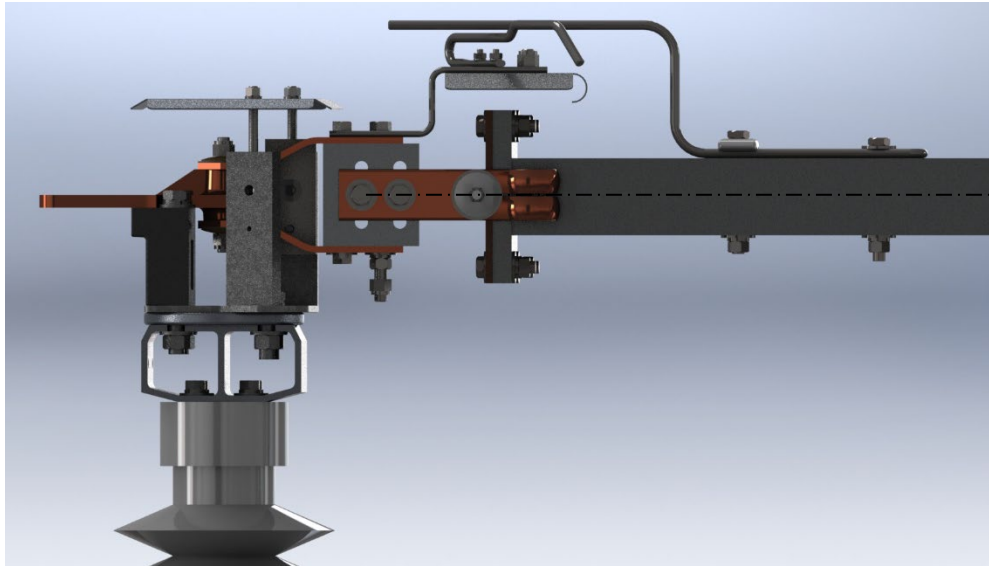

Figure 8: Blade Alignment
- 2) Ensure the centerlines of both blades are aligned. Blade should be centered $\pm 1/8"$. See Figure 8.